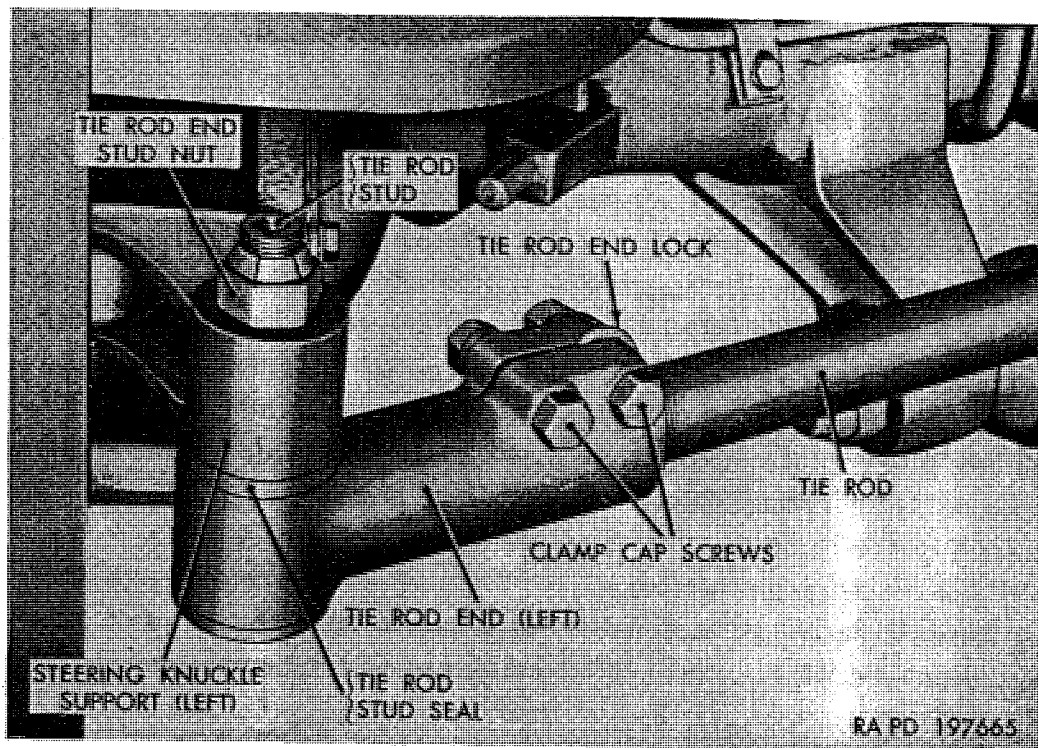

Figure 227. Tie rod installed (left side shown).
- (1) Place vehicle on a level surface and apply parking brake. Place a jack under front axle and raise enough to take weight of vehicle off front wheels.
- (2) Loosen two tie rod end clamp screw nuts at each end of tie rod; then remove inner clamp screws and nuts; also lock (fig. 227) at tie rod left end. Remove tie rod end stud nut at each end of tie rod. Tap steering knuckle support arm a sharp blow with hammer as downward pressure is applied to tie rod end with pinch bar. Move each tie rod end down, and at same time twist forward until free from steering
- (1) Thread tie rod ends onto tie rod an equal distance. Each tie rod end will engage tie rod a distance of 3 inches when in approximately correct location.
- (2) Carefully measure distance between centerline of tie rod end studs; then thread tie rod ends on or off until dimension is $62\frac{17}{32}$ inches. This dimension will approximate correct toe-in after tie rod is installed.
- (3) Install two $\frac{1}{2}$ -20 x $2\frac{1}{2}$ cap screws and $\frac{1}{2}$ -20 nuts used to clamp tie rod ends to tie rod. Also install tie rod lock at tie rod end (left) (fig. 227). Do not final tighten cap screw nuts until toe-in check is made.
- (4) Place tie rod stud seal (fig. 227) over each tie rod stud. Position tie rod assembly with end having coarse threads to right, and end with lock to the left. Insert tie rod end studs into tapered holes in support arms. Install $\frac{7}{8}$ -14 safety nut on each tie rod end stud. Do not final tighten nuts.
- (5) Check and adjust toe-in (par. 220).
- (6) After toe-in adjustment has been made, final tighten tie rod end clamp screw nuts to 48 to 64 pound-feet torque. Final tighten tie rod end stud nuts to 85 to 125 pound-feet torque.
b. *Toe-In Adjustment* (fig. 227). Loose wheel bearings, worn steering knuckle bushings, loose steering knuckle support trunnion bearings, damaged wheels, and bent steering knuckle, housing, and tie-rod